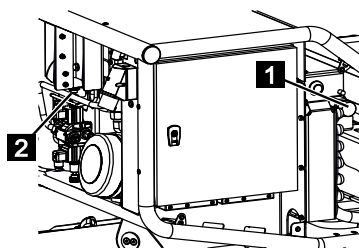

Fig. 208
3. After service mode, screw the valve [LS] (Fig.208/2) out again completely and unlock the valve [outrigger, crawler] (Fig.208/1) by turning it anti-clockwise. Screw the covers back into place.